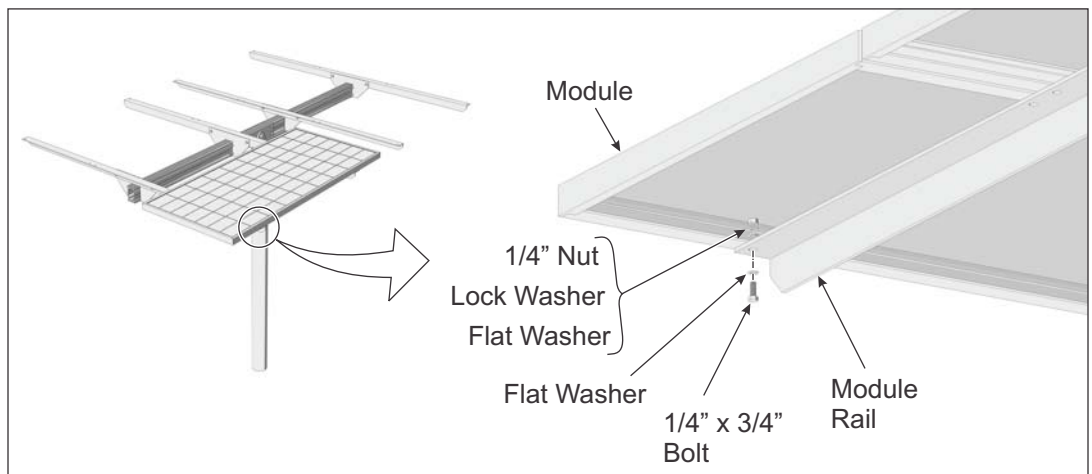

Figure 6-1: Installing PV Modules to Module Rails
- Place a southern most PV Module on the Module Rails. Align the mounting holes and secure with 1/4\" x 3/4\" bolts and hardware. Each Module has four attachment points. Finger-tighten for now. (See Figure 6-1)